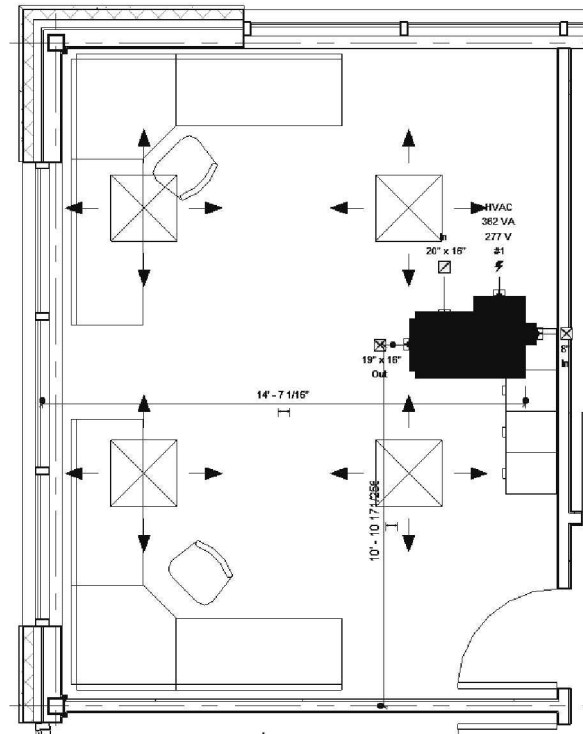

FIGURE 13-4.6 VAV box selected
23. Select the VAV box to reveal its connectors (Figure 13-4.6).